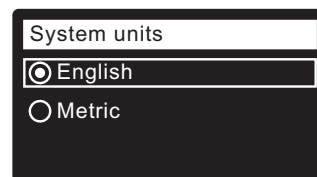

FIG. 26
9. **SYSTEM UNITS** If the desired system already has a dot next to it (See Figure 26), go to Step 10. Otherwise, press the DOWN (▼) or UP (▲) buttons to scroll to the desired system, then press the SELECT (O) button to choose it.
10. Press the SELECT (O) button.